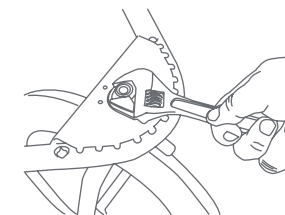

Fig. 24
24) • Remove footrest to access nut. You can use a standard crescent wrench to tighten the nut (Fig. 24).